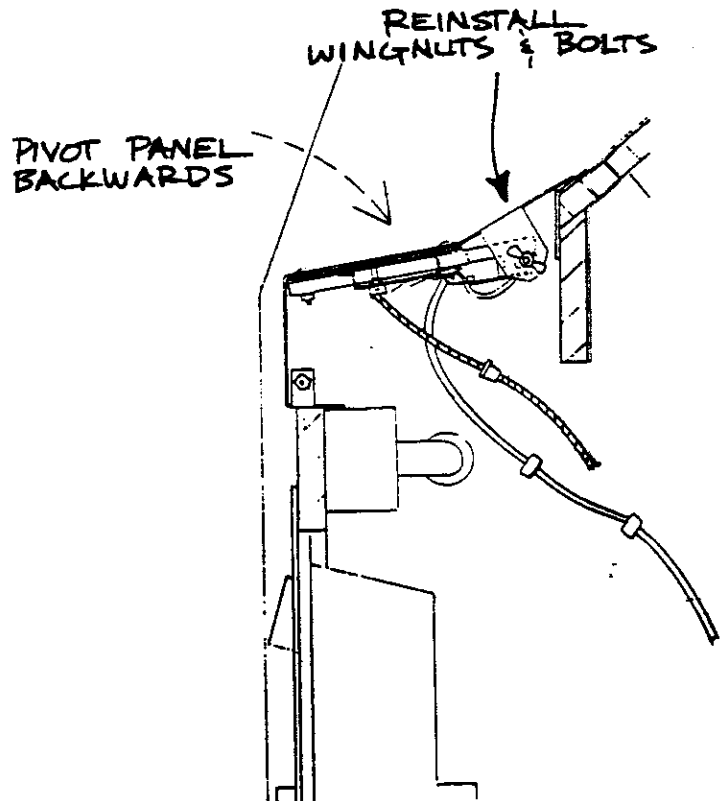

FIGURE 5
1. Open the coin door and locate four bolts which mount the control panel to the cabinet (See Figure 5). Remove the two wingnuts mounted on the bolts nearest the rear of the cabinet, and pull out the bolts. Keep the washers, noting their placement.